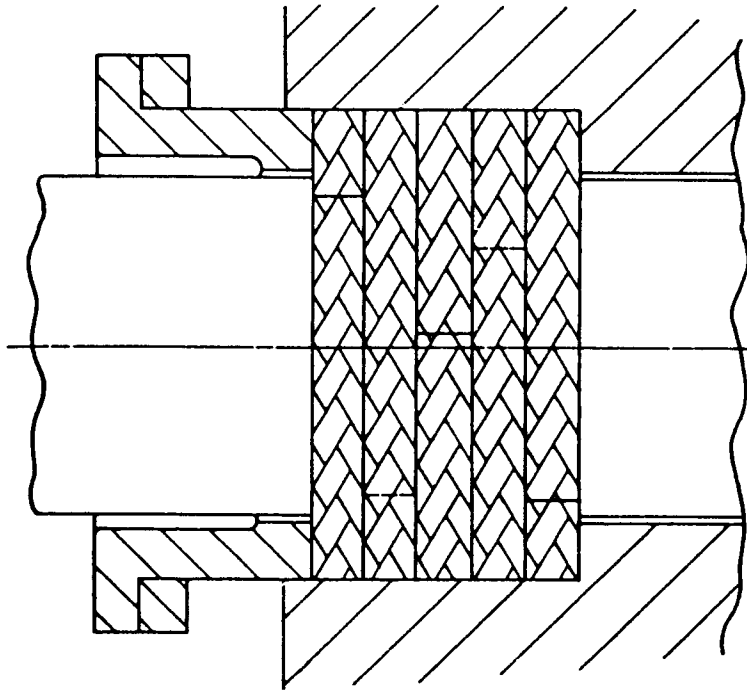

Figure 4. Stuffing Box Packing Arrangement
**To Repack:** The first packing ring is inserted and pushed to bottom of the stuffing box. The following rings are then inserted individually, with the butt joint of each packing ring offset approximately 90 degrees from the preceding ring. The packing gland may be used to push each ring into position. The packing rings should be pressed lightly against each other by the gland. Make sure that the butts of any two adjoining rings do not lie in line (see figure 4). Insert packing rings, leaving a 1/4" gap at end so that the gland will have positive guidance and cannot be tightened askew.